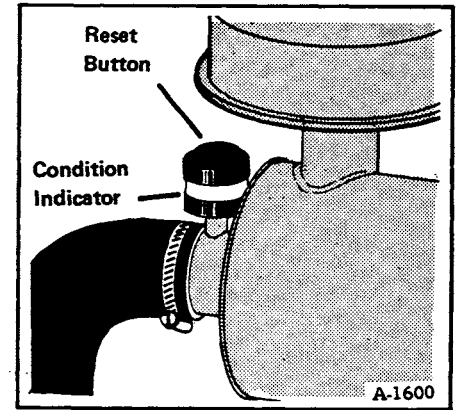

Fig. 11 Condition Indicator
1. Check condition indicator on the air cleaner and replace element if red ring appears in viewing window (Figure 11).